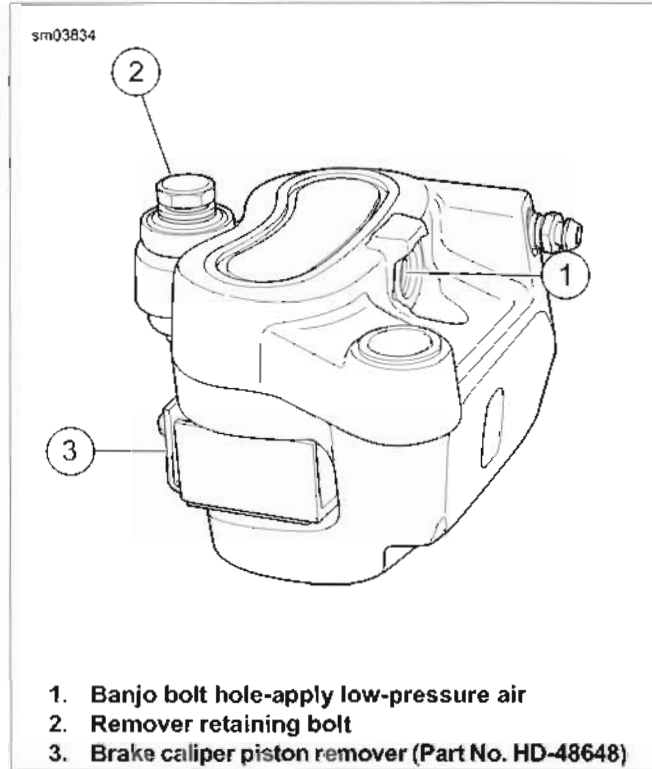

Figure 2-58. Removing Pistons
3. See Figure 2-58. Remove pistons.
- a. Place BRAKE CALIPER PISTON REMOVER (Part No. HD-48648) (3) into caliper housing. Install bolt (2) only enough to hold tool in place.